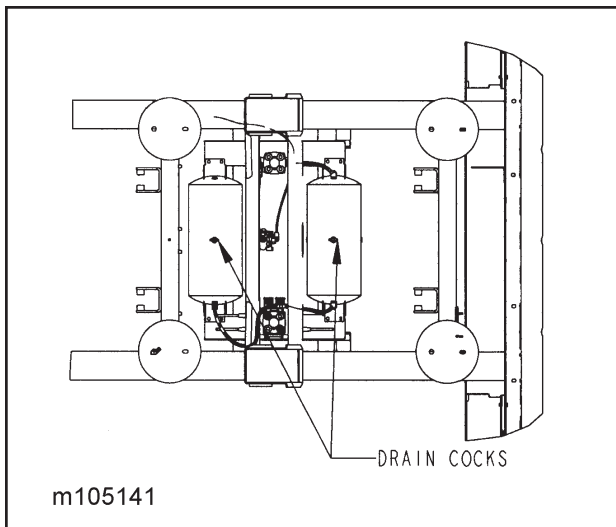

Figure 4-15 Drain Cock Locations
- d. Drain air reservoir daily. A drain cock on the bottom of each air reservoir vents the tank to drain collected water and oil. If held open, air pressure in the tanks is relieved, causing the emergency or parking brakes to be applied (See Figure 4-15).